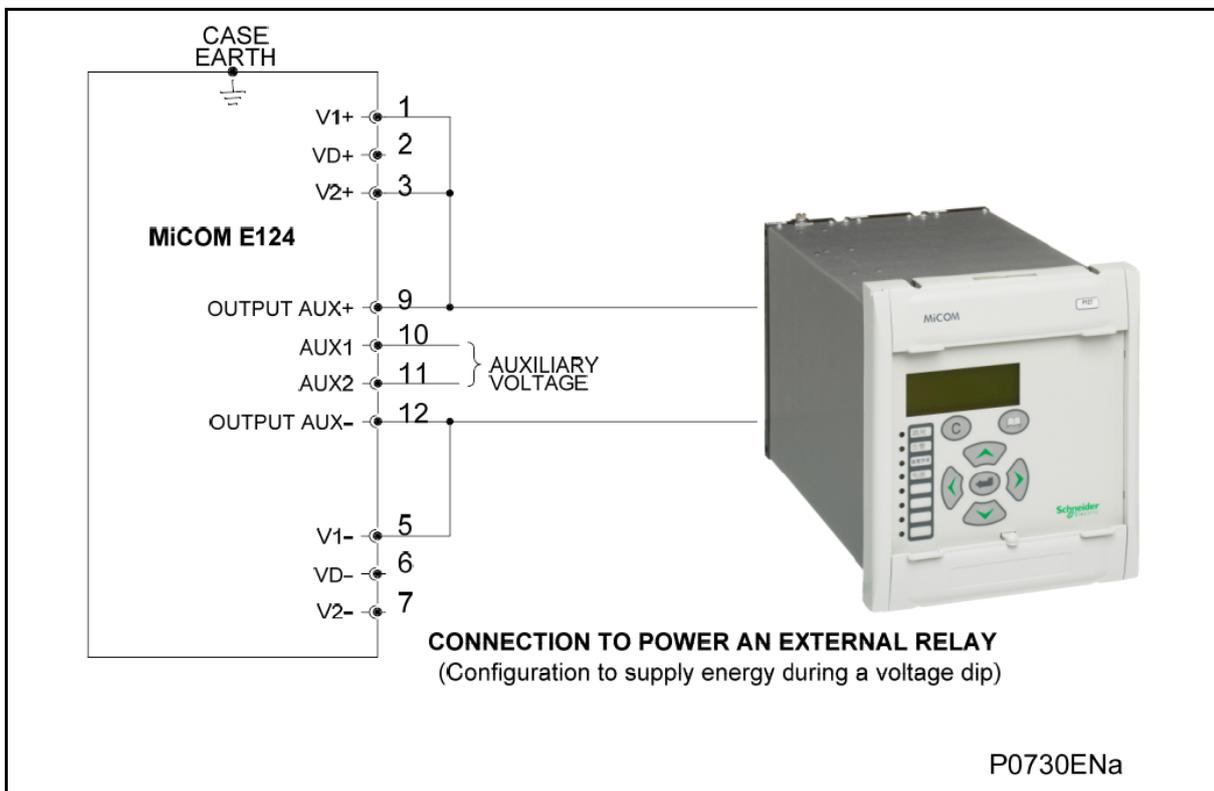

FIGURE 1: E124 USED TO SUPPLY RELAYS
MiCOM E124 can be used to supply power an external device from an auxiliary AC/DC supply (even in case of voltage dips) or from a voltage transformer (VT) connected on the busbar as described in figure 1.